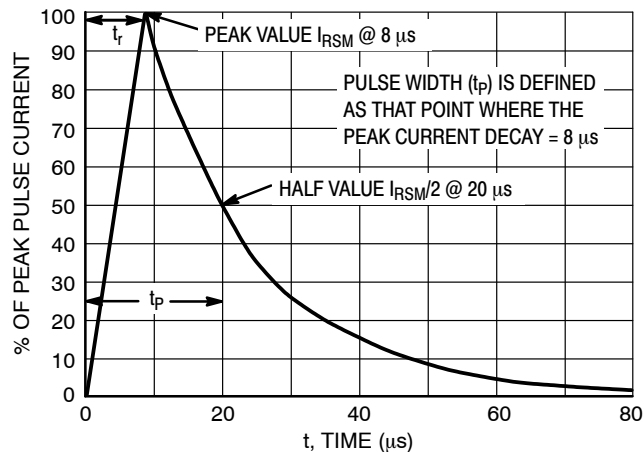

Figure 5. 8 x 20 μ s Pulse Waveform
1. Non-repetitive current pulse per Figure 5 (Pin 5 to Pin 2)
- Non-repetitive current pulse per Figure 5 (Any I/O Pin to Ground)